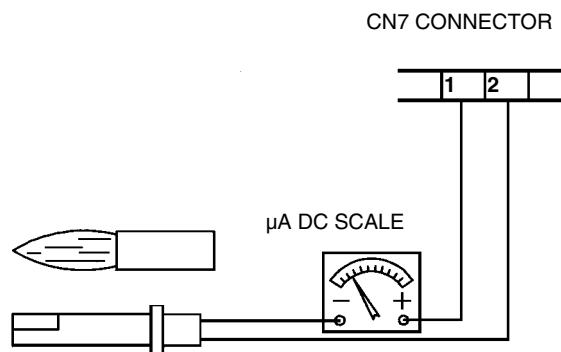

Fig. 56
- Inspect and thoroughly clean the flame detection photoresistor and replace if necessary. In case of doubt, check the detection current after first starting the burner by following the procedure illustrated in Fig. 56.
See the diagram in Fig. 56 to measure the detection current. If the signal doesn't suit the suggested value, check the electric terminal, the cleaning of the combustion head and the position of the photoelectric cell; replace it if necessary.